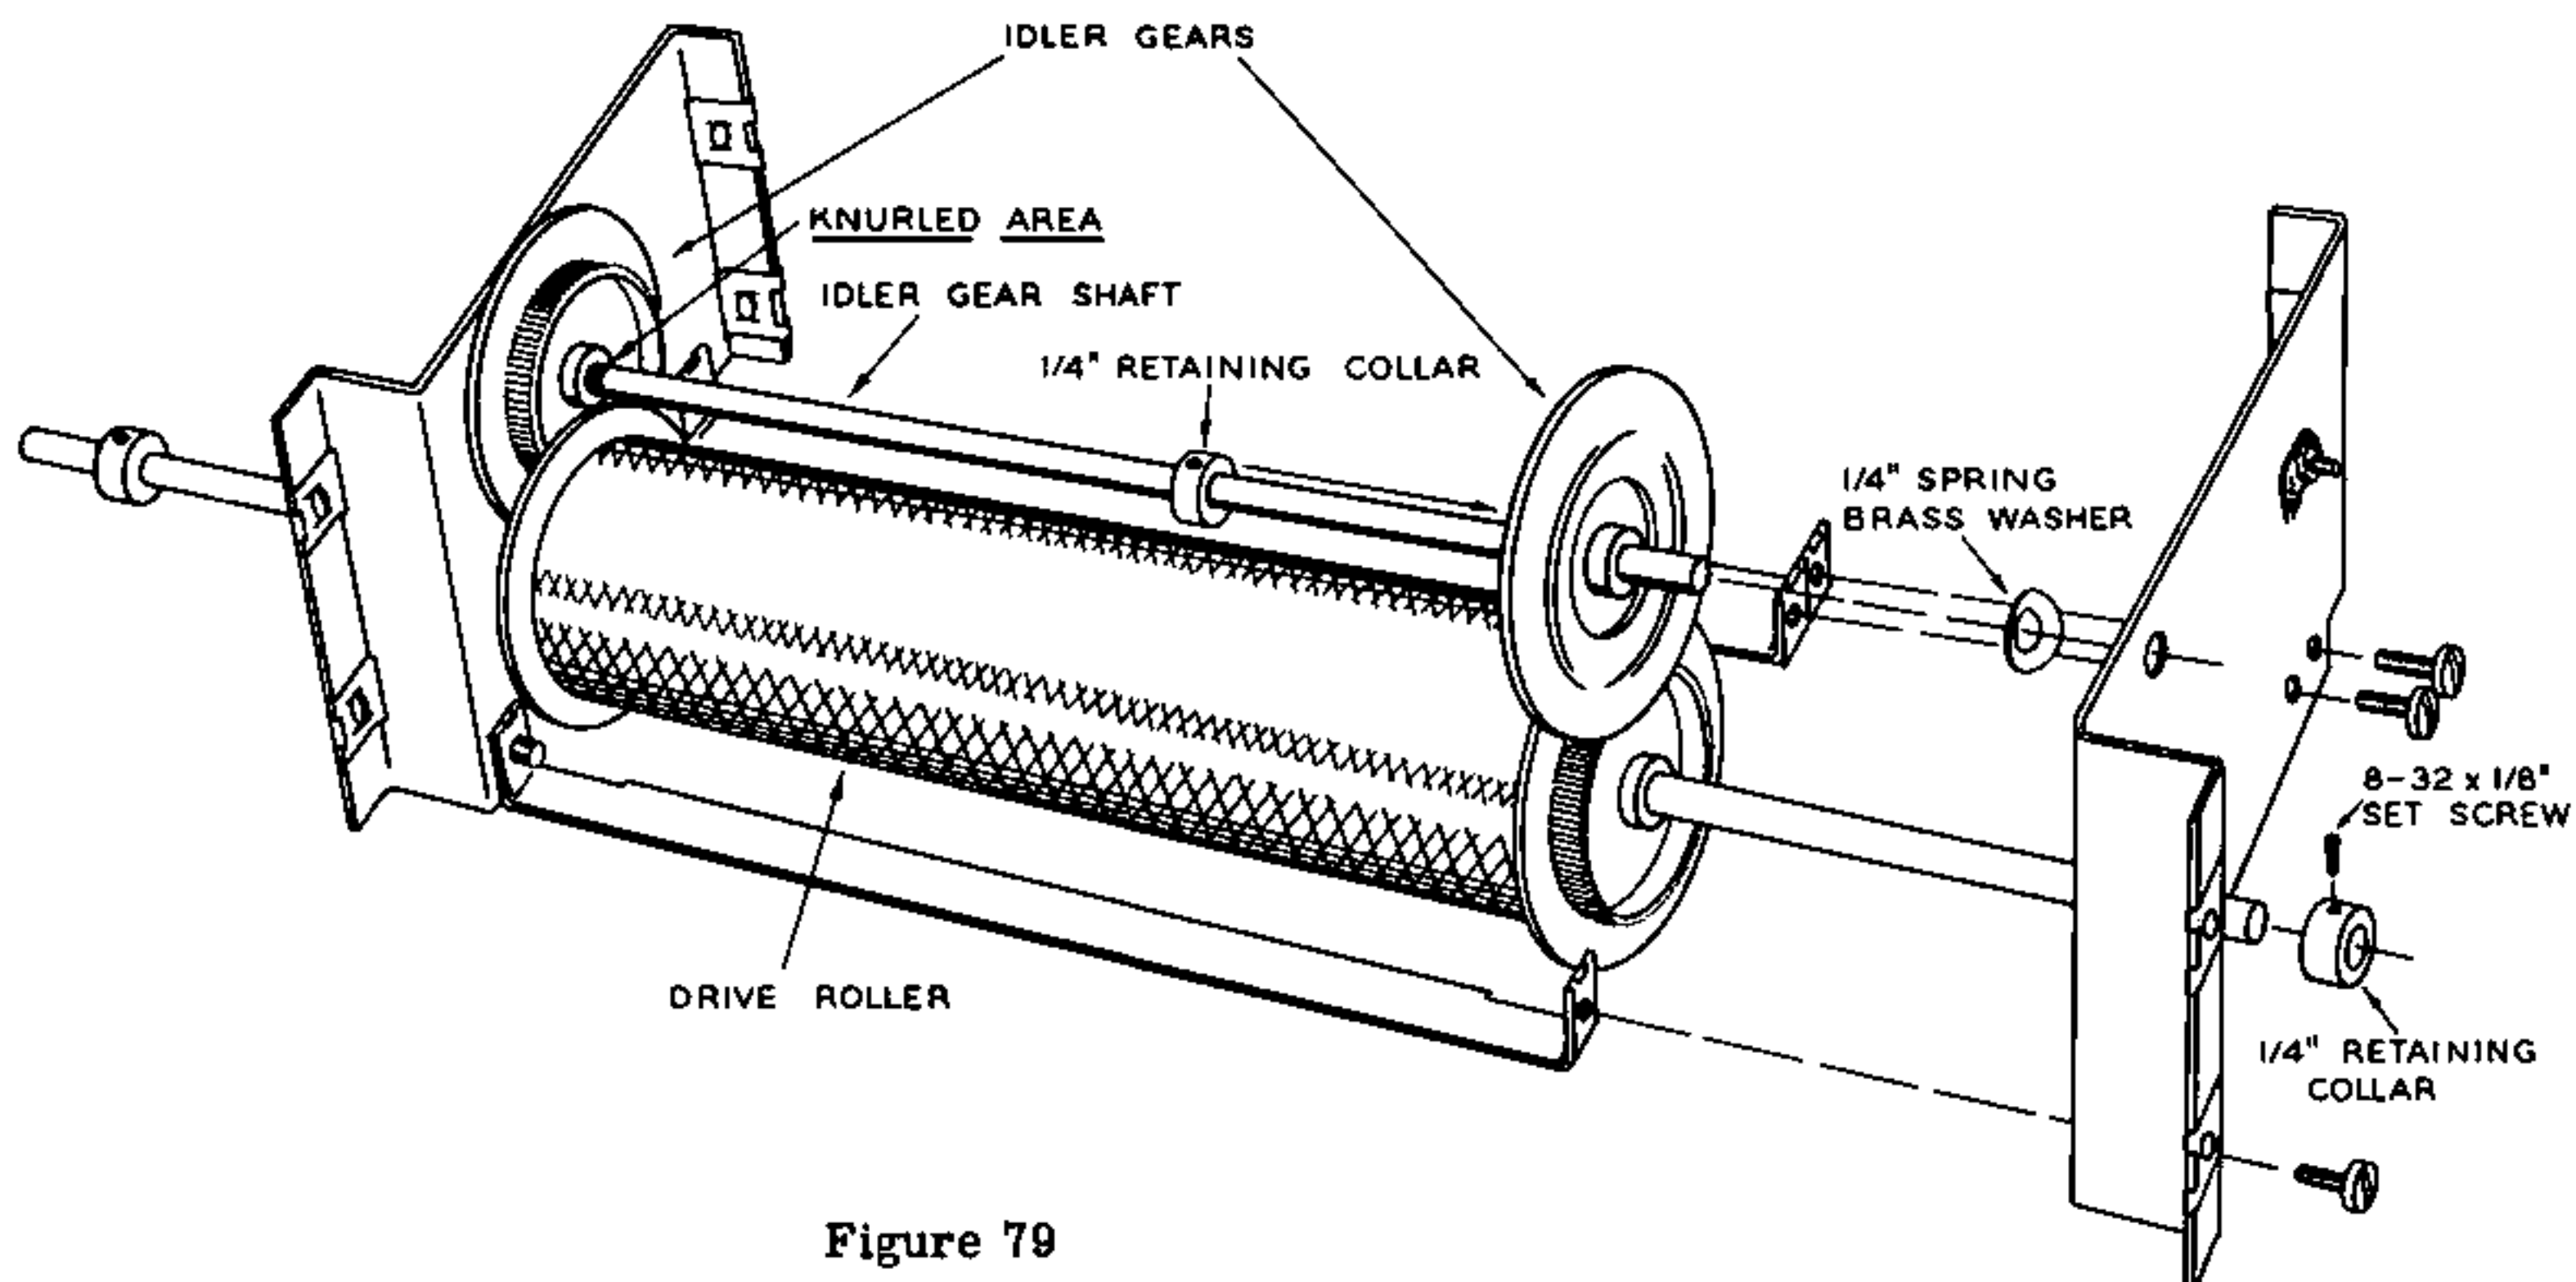

Figure 79
- ( ) See Figure 79 and remove the right hand roll chart bracket from the assembly and install the drive roller and idler gears. Place a 1/4" retaining collar between the idler gears and a spring brass washer on each end between gear and bracket.